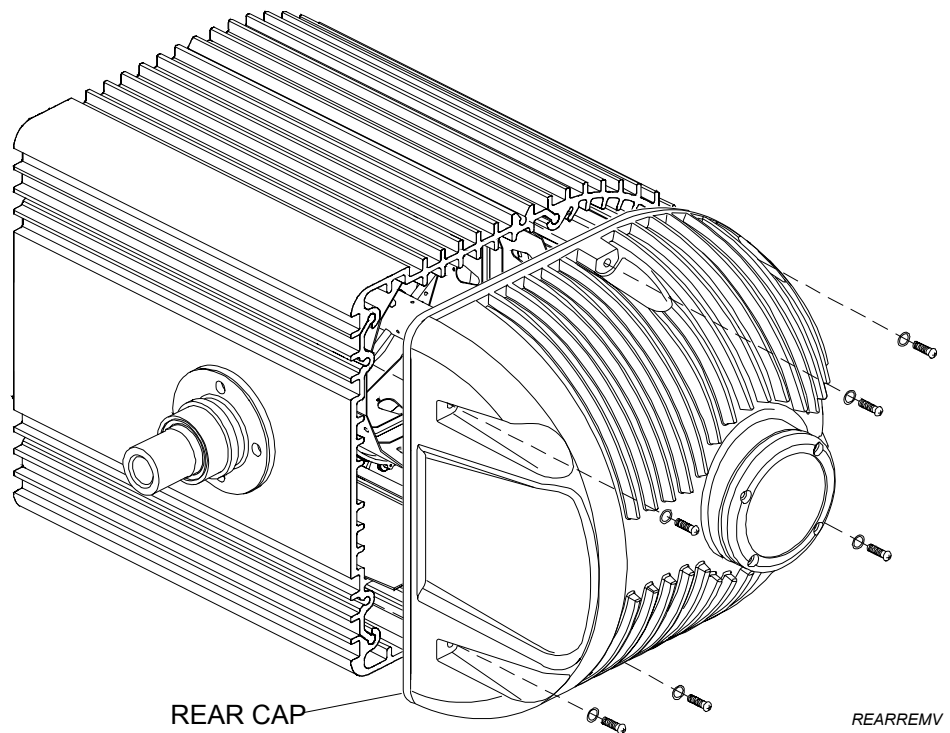

Figure 6.3 - Removing the Rear Cover.
2. Using #2 Phillips screwdriver, loosen six screws and remove head enclosure rear cover (Figure 6.3).